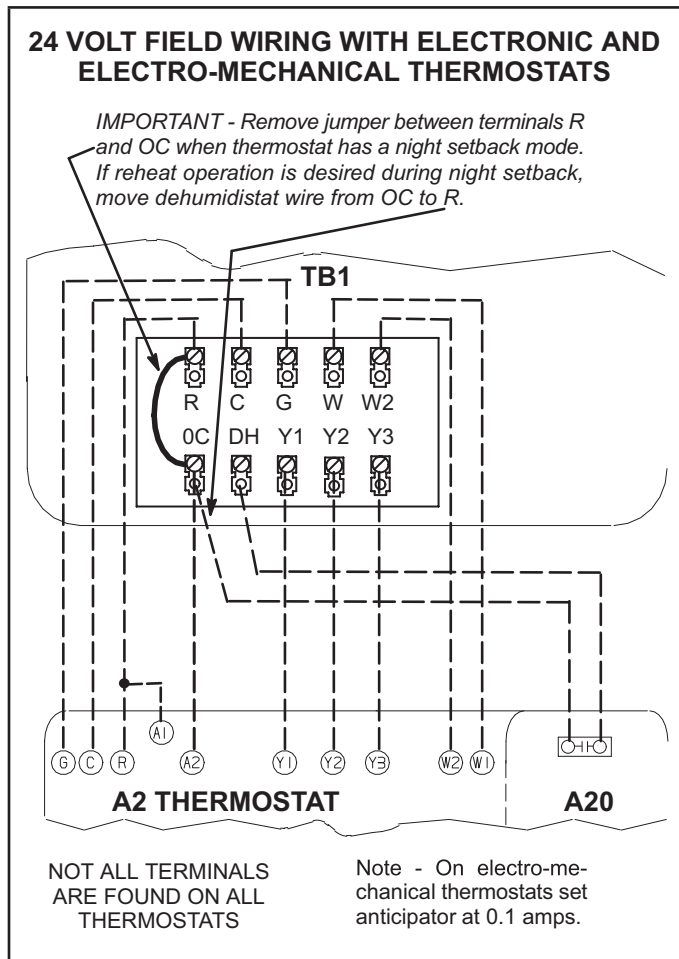

FIGURE 9
- 3 - Connect thermostat wiring to TB1 terminal board on the lower side of the controls hat section. Wire as shown in FIGURE 9 for electro-mechanical and electronic thermostats. If using other temperature control devices or energy management systems see instructions and wiring diagram provided by manufacturer.